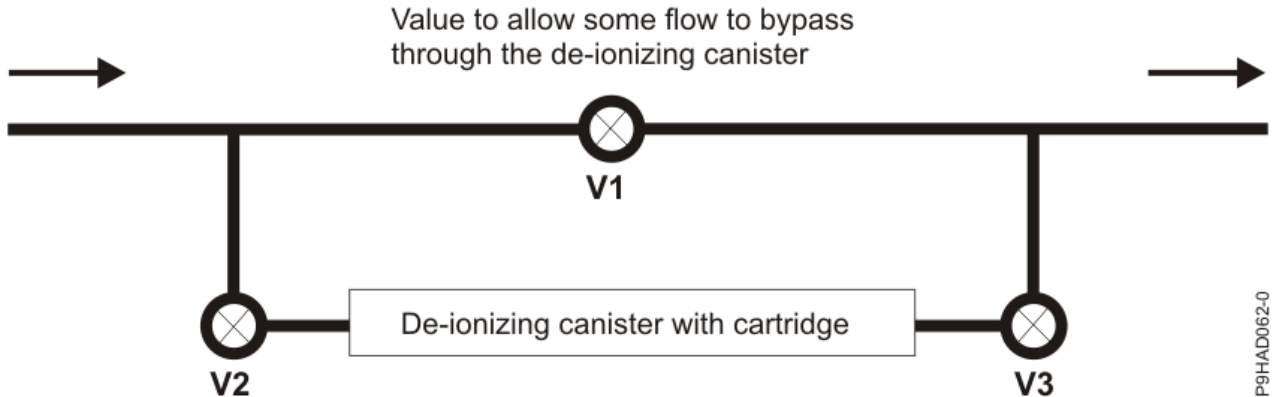

Figure 103. Deionizing the water using deionizing cartridges installed in the cooling loop
- It is important to ensure that the system water is cleaned before any chemicals are added to the water. This can be accomplished by deionizing the water by using deionizing cartridges that are installed in the cooling loop. An example is shown in Figure 103 on page 166. Even if deionized water is used to fill the system, a deionizing step is prudent for two reasons: the first is to ensure that the starting water is deionized and the second is to remove any ions that might leach off the walls of the cooling loop.